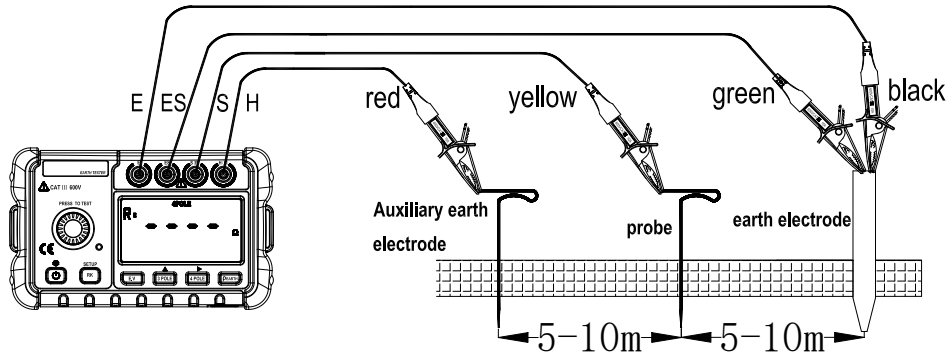

Figure 9
- (1) Press 4 POLE key to select measurement method: 4 Pole (the Main Screen displays 4POLE in the upper part);
- (2) Residual resistance of Rk
- ① Firmly insert each plug of 4 test leads (black, green, red, YELLOW) to the corresponding terminals E, ES, S and H on the instrument respectively.
- ② Engage 4 Alligator clips to short-circuit all of them.
- ③ Save the Rk values with reference to 'the residual resistance on the Test Leads'.
- (3) Connection of Auxiliary Earth Spikes and Test Leads (See figure 9)